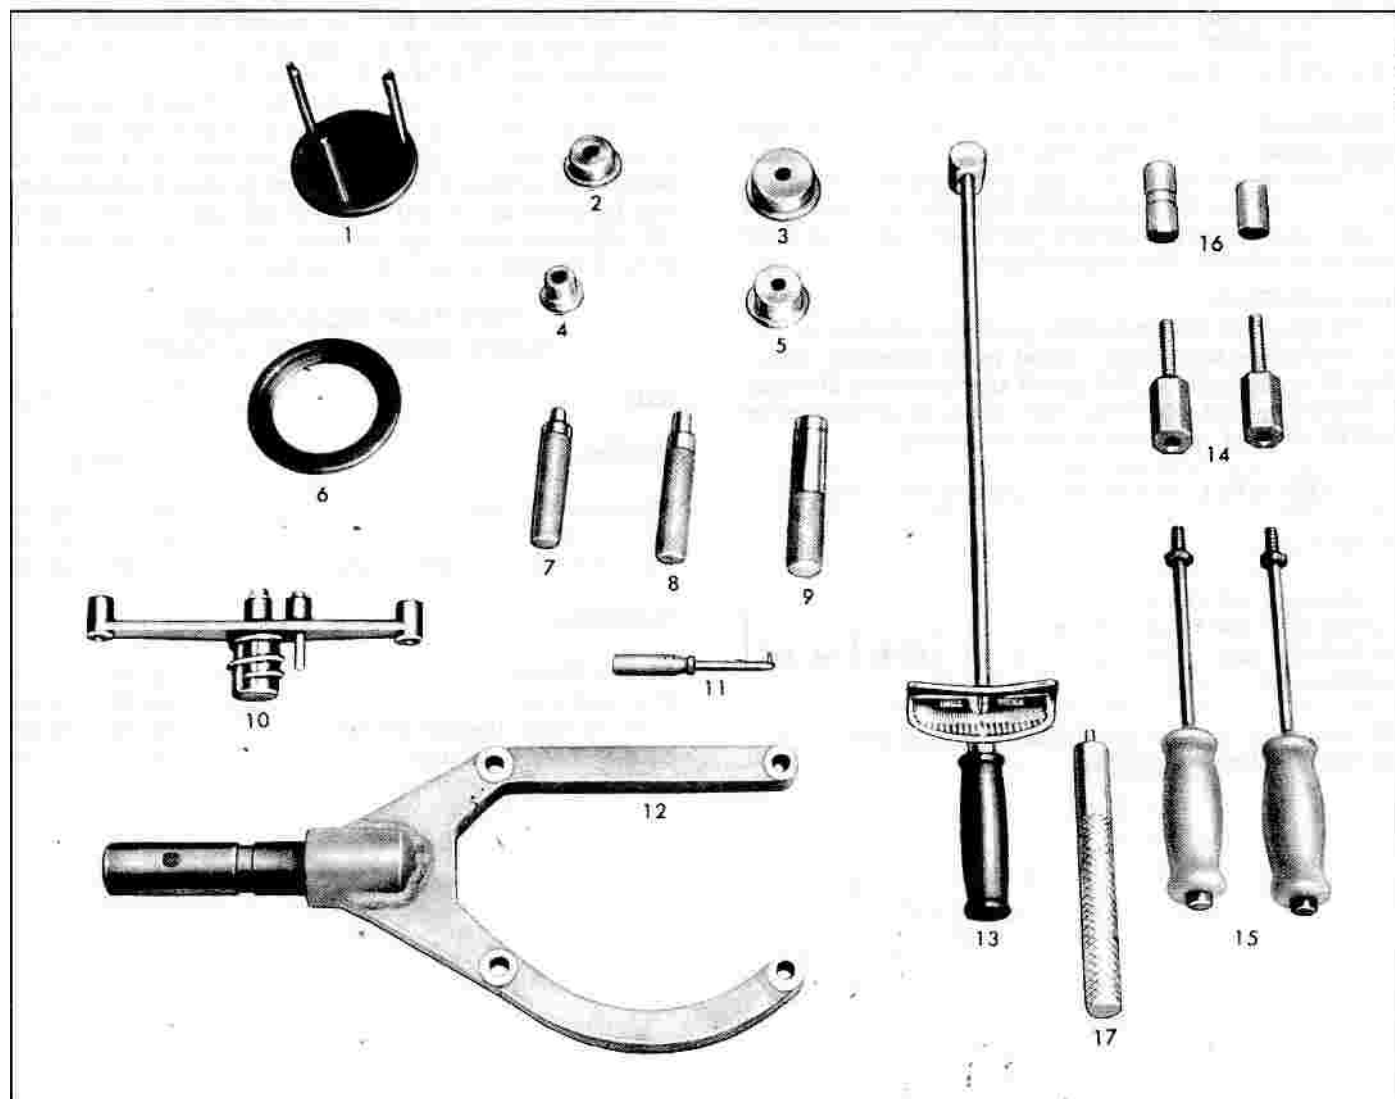

Fig. 7E-63—"Corvair" Powerglide Special Tools
Throttle valve pressure tests are of value in cases where the transmission shift points are not in accordance with the "Shift Point—MPH Chart." If pressures are not as prescribed, they may be raised or lowered by adjusting the position of the jam nut on the throttle valve assembly (fig. 7E-11). To raise TV pressure 3 psi, back-off the jam nut one (1) full turn. This increases the dimension from the jam nut to the throttle valve assembly stop. Conversely, tightening the jam nut one (1) full turn lowers TV pressure 3 psi. Smaller pressure adjustments can be made by partial turns of the jam nut. The end of TV adjusting screw has an Allen head so the screw may be held stationary while the jam nut is moved.